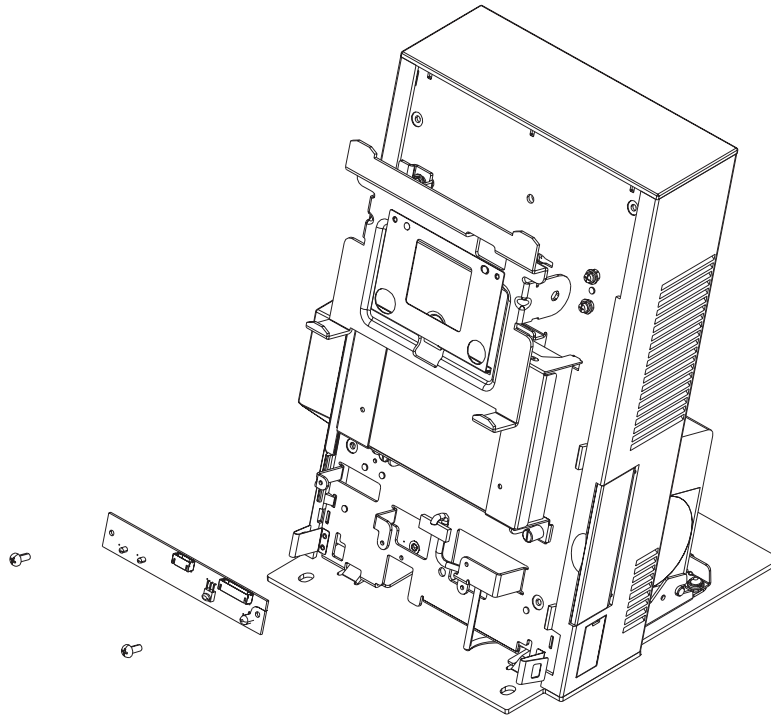

Figure 32. LED card and cable, presence sensor
4. Remove the two screws from the LED card (see Figure 32) and remove it.